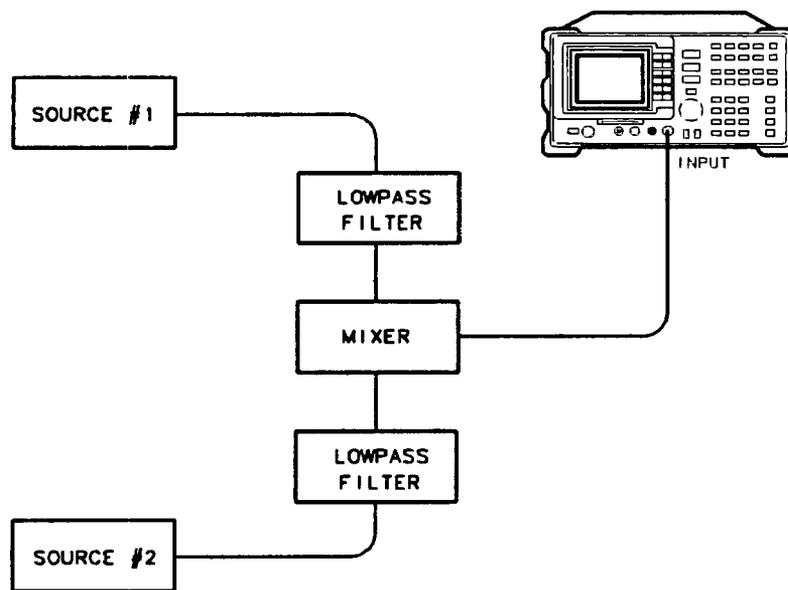

Figure 6-23. Third-Order Intermodulation Equipment Setup
1. Connect the equipment as shown in Figure 6-23.